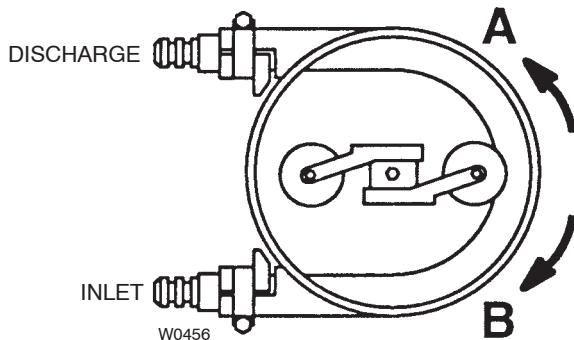

Figure 2
4. See Figure 2. Run pump and check direction of rotation, "A" or "B" as shown. All pumps must rotate in direction "A" (counterclockwise). To reverse rotation, exchange two of three wires that connect incoming power to motor.